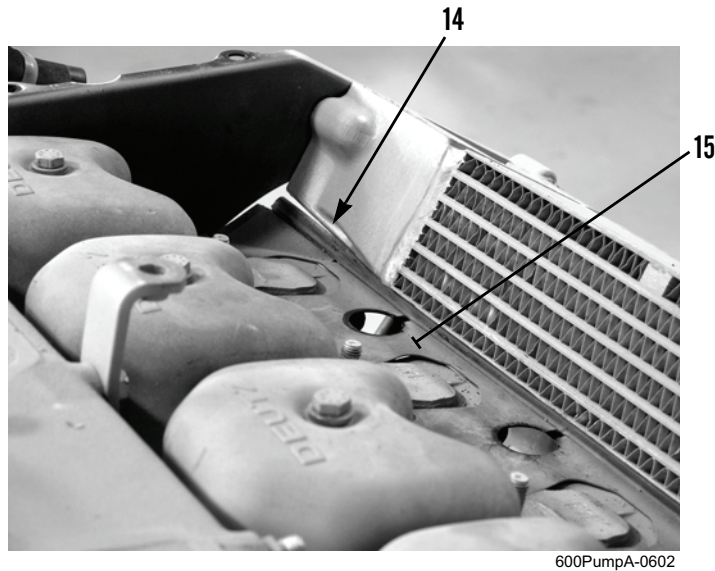

Figure 4. Oil Cooler Sealing Strip.
5. If damaged, remove sealing strip (Figure 4, Item 14) from air baffle (Figure 4, Item 15) and discard.
2. If removed, position new sealing strip (Figure 4, Item 14) on edge of air baffle (Figure 4, Item 15).